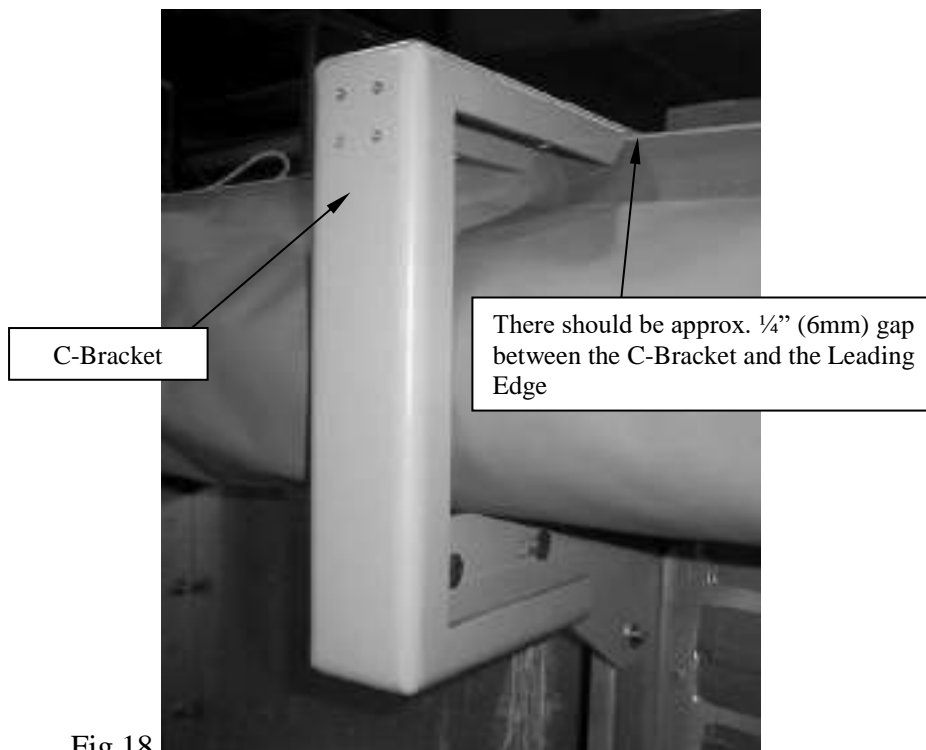

Fig 18
5. Bolt the C-bracket to the flat bracket. Make sure that there is a 1/4" (6mm) gap between the leading edge and top of the C-bracket. **Do not tighten bolts at this time.** (Fig 18)